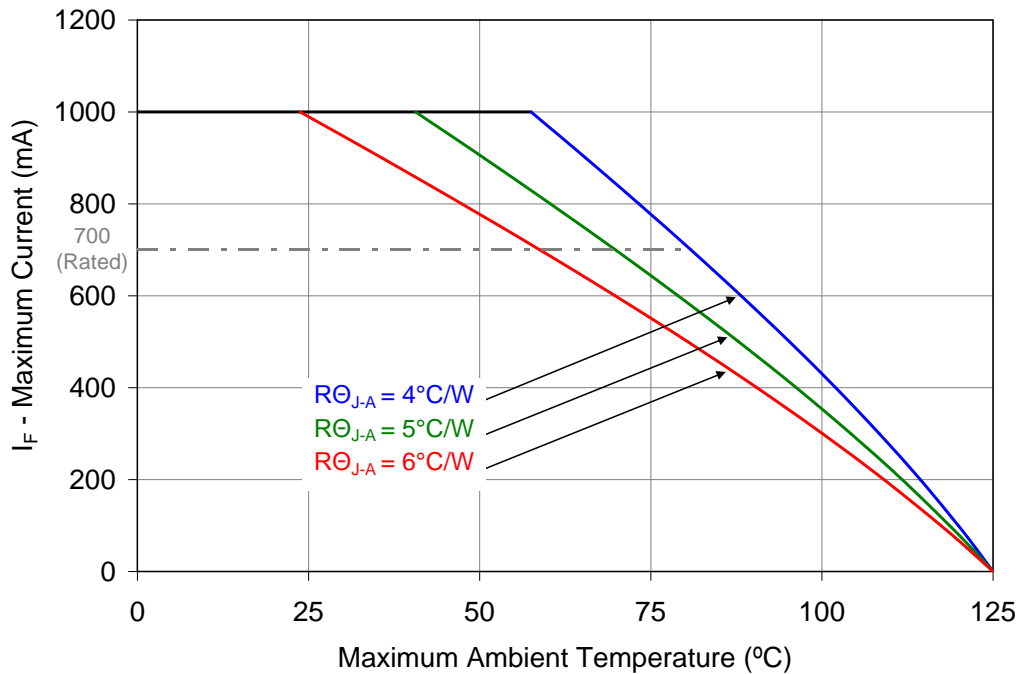

Figure 10: Maximum forward current vs. ambient temperature based on $T_{J(MAX)} = 125^\circ\text{C}$.
- Maximum DC forward current is determined by the overall thermal resistance and ambient temperature. Follow the curves in Figure 10 for current derating.
Notes for Figure 10: